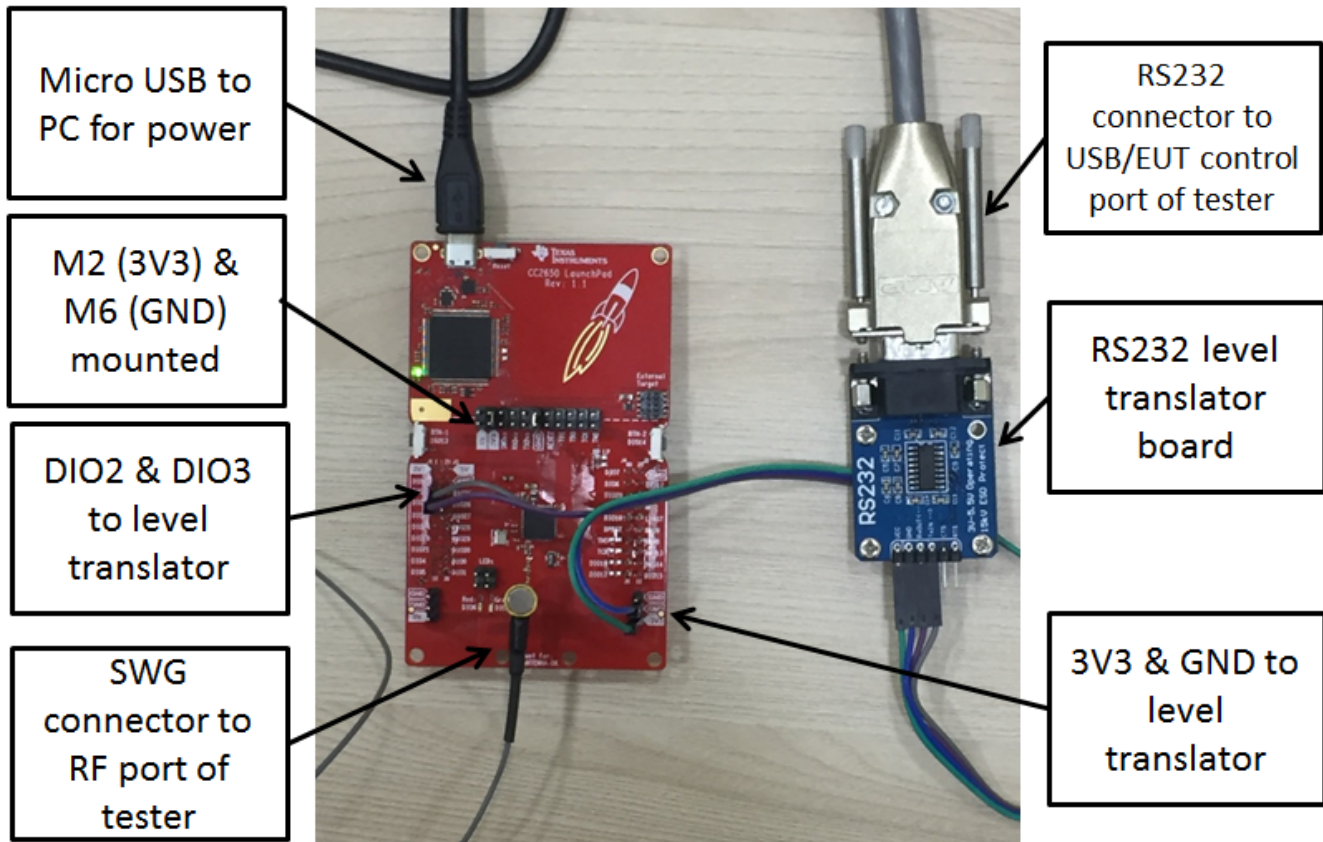

Figure 6. Hardware Setup for the CC2650LP in RS232 Mode
6. Connect a SWG-to-SMA RF coaxial cable between J5 and RF port of the tester, as shown in Figure 6.